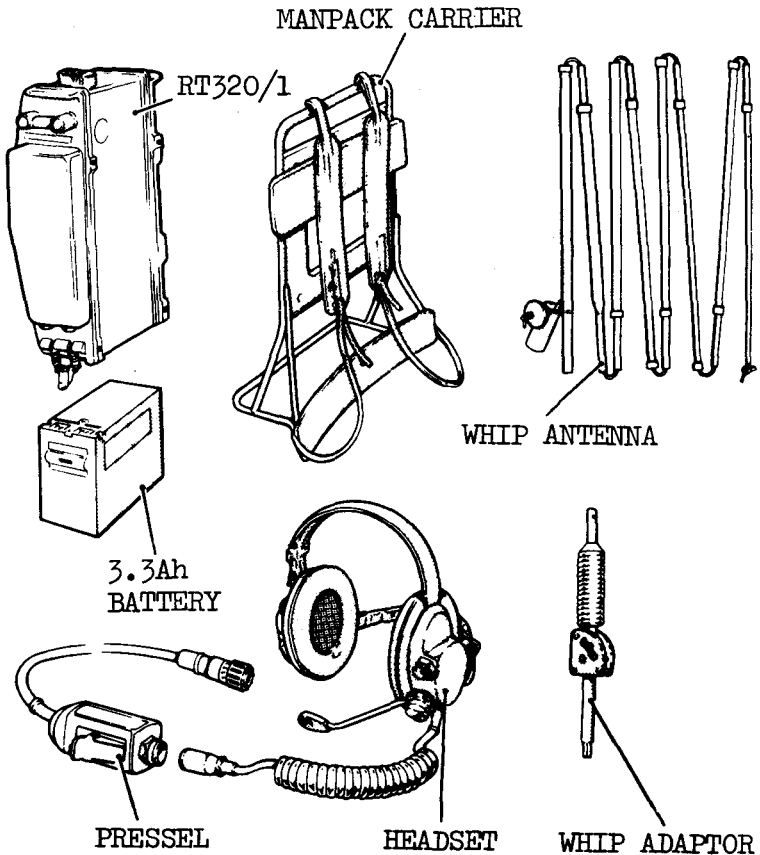

Fig.2a Basic Station and Ancillary Equipment
2.1 The items comprising the basic station and its ancillary equipment are illustrated in Fig.2a,b,c in which they are referred to by their common names.